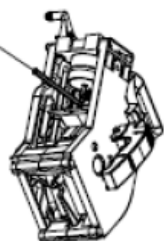

Fig.13
9. When disassembled, you shall use the attached rotating handle (see Fig.13-Fig.17).